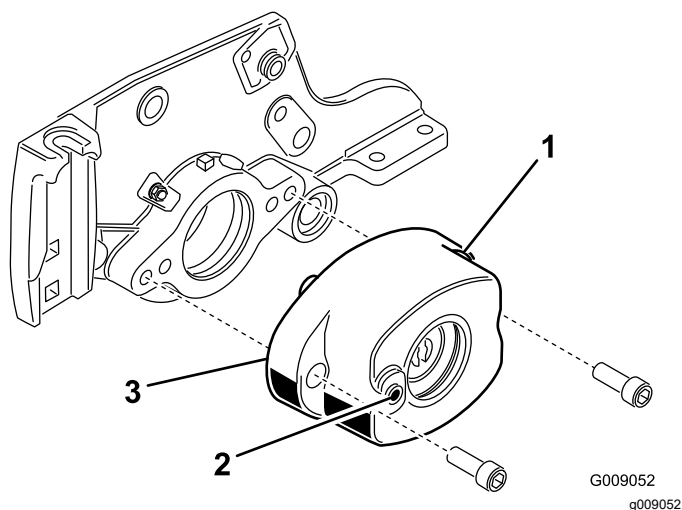

Figure 6
6. Mount the roller brush housing to the reel bearing housing with 2 Allen Head Bolts (3/8 x 1 inch) (Figure 6). Position the roller brush housing so that the threaded hole is toward the front of the cutting unit.